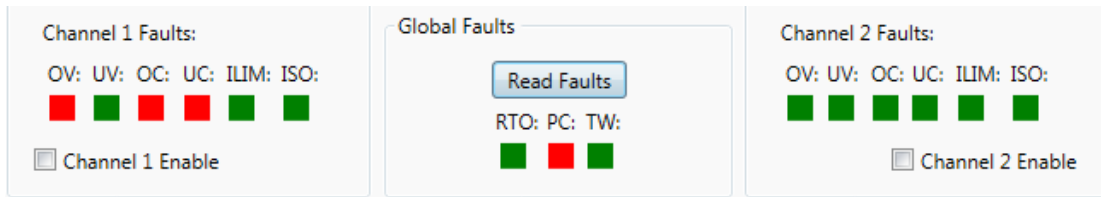

Figure 46. Fault Status after Pushing the Read Faults Once
After the SPI settings are applied the fault status must be obtained. The GUI shows the fault status registers FLT1 (0x11) and FLT2 (0x12). Before enabling and turning on the output, the fault registers must be read (cleared). The power cycle (PC) bit must be cleared in order for the TPS92682-Q1 to turn on. The fault status can be obtained by clicking **Read Faults** (as shown in Figure 46).